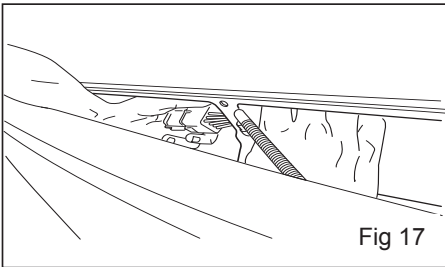

Fig 17
15. Connect the Lightbar harness and reassemble the hood vent with lightbar installed. Assemble the same way as disassemble in steps 1 - 3. (Figure 17)